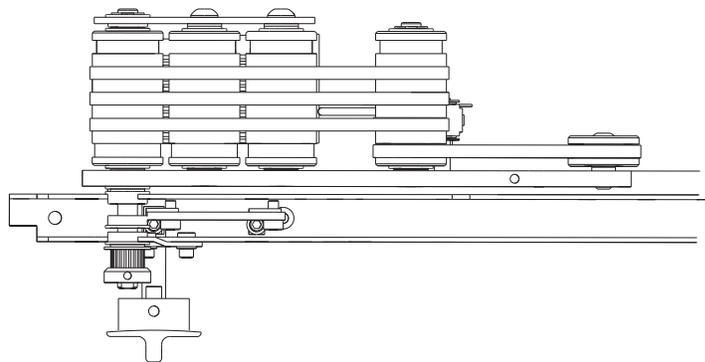

FIGURE 28: Feed Belt Assembly
- 5 On a weekly basis or if the dirt buildup on the pulleys appears excessive, clean the top side of the feed belts (see Figure 28). To do this: